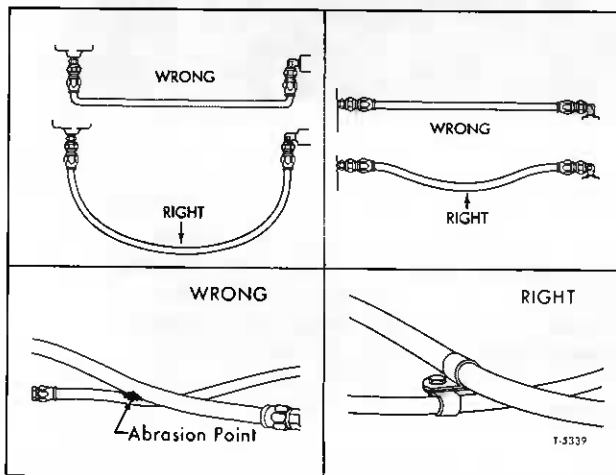

Figure 3—Proper Installation of Teflon Hoses
7. Remember the hose will change in length when pressurized. Provide slack or bend in the hose to compensate for any changes which might occur as shown in figure 3.
8. Rotate and clamp hose to prevent it from contacting another hose line or abrasion point as shown in figure 3.